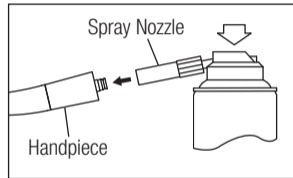

Fig. 9
- 3) Insert the Spray Nozzle into the rear of the handpiece. Hold the handpiece and spray for approximately 2-3 seconds. Apply lubricant until it expels from the handpiece head for at least 2 seconds (Fig. 9).
- 3) Lubricate handpiece by using NSK PANA SPRAY Plus/PANA SPRAY (Fig. 9) or NSK automatic handpiece cleaning and lubrication system.